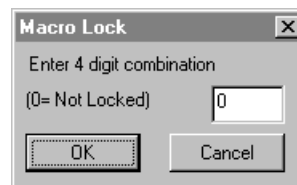

Figure 13.2. Use the Macro Lock feature to lock a macro as a “black box.”
- 3 Choose **Macros > Macro Lock** to display the dialog box pictured in Figure 13.2.